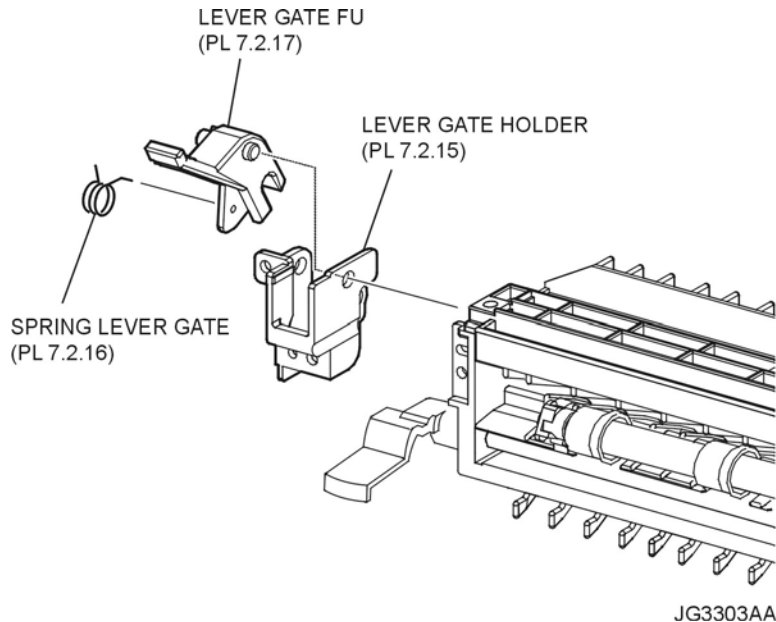

Figure 1. Lever Gate Holder & Spring
- 6) Bend LEVER GATE FU (PL 7.2), and remove it from LEVER GATE HOLDER (PL 7.2) (Figure 1).
SPRING LEVER GATE (PL 7.2) remains on the side of LEVER GATE HOLDER (PL 7.2) (Figure 1).
- 7) Remove the SPRING LEVER GATE (PL 7.2) (Figure 1).
- 1) Install the ROLL FU to the BEARING EXIT (PL 7.2) on the opposite side of the GEAR 21 (PL 7.2) by shifting the ROLL FU in the opposite direction of the arrow (Figure 1).